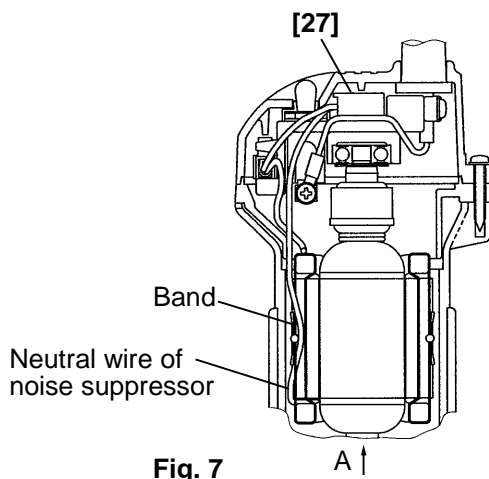
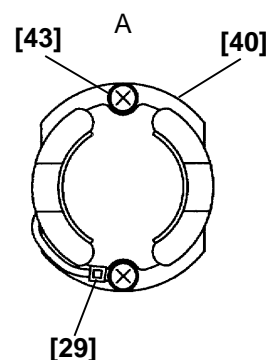

Fig. 7
Fig. 8
- (1) When installing the Stator Ass'y [40] in the Stator Holder Ass'y [38] with two Tapping Screws D4 x 60 [43], do not forget to fit the Neutral Wire Terminal [29] of the Noise Suppressor [27] in the Stator Ass'y. Note that the Neutral Wire Terminal [29] of Noise Suppressor [27] should be passed under the band on the side of the Stator Ass'y [40] (Fig. 7). Do not place the neutral wire of Noise Suppressor [27] beyond the core outer circumference of Stator Ass'y [40] (Fig. 8).